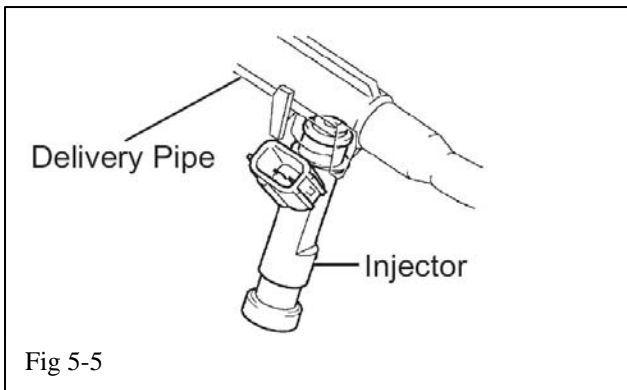

Fig 5-5
- (c) Pull the 6 injectors out of the delivery pipe (Fig 5-5). Discard the injectors as they will be replaced with new higher flow injectors. The old injectors should be saved for the customer.